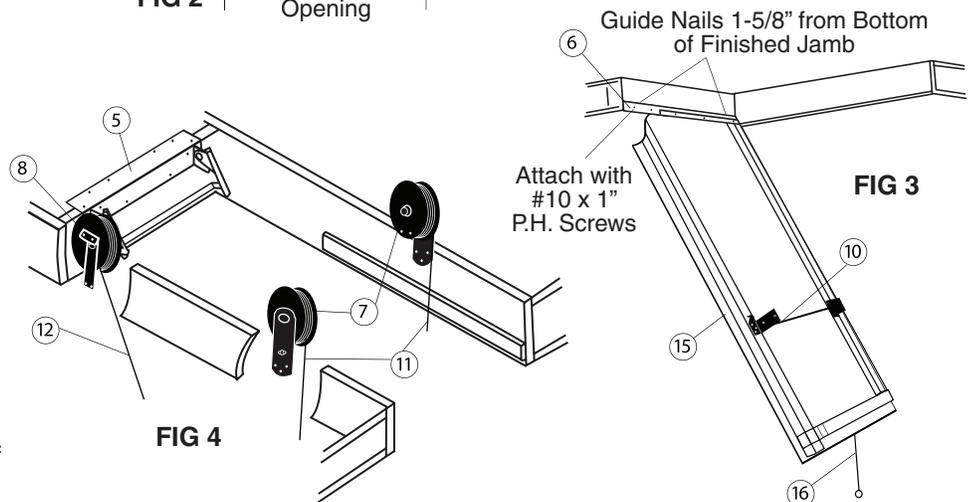

FIG 3
**STEP 3.** Remove the door panel from carton and make certain this part has not been damaged in shipping or handling. To install door panel (Part 15), see FIG 3, draw a line  $1\frac{5}{8}''$  above the bottom edge of finished jamb all the way across the header where the door panel will be hinged. Drive two small nails half way through the jamb on the line to act as a guide to hold the hinge against when fastening hinge to jamb. While your helper holds the door and hinge against the nails above, center the hinge between the side jambs, and partially drive two more nails through screw holes in hinge. This will hold door in position while you complete installation using #10 x 1" P.H. screws in rest of holes.